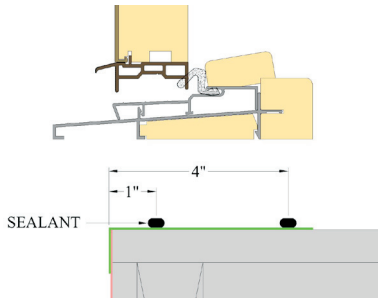
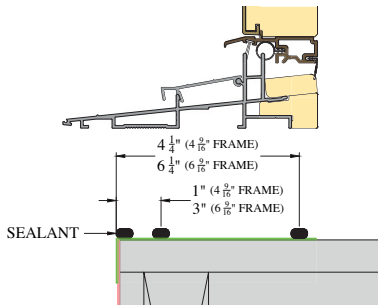

FIG. 12: OUTSWING PATIO SILL
FIG. 13: 4-9/16" & 6-9/16" INSWING PATIO DOOR SILL
- Apply three 1/4" continuous beads of silicone across the entire width of the rough opening. Note the locations are different for each door type. Fig. 13 shows the silicone location for a 4-9/16" and 6-9/16" inswing door. The bead location will be different for other jamb sizes. (Fig. 12 & 13)